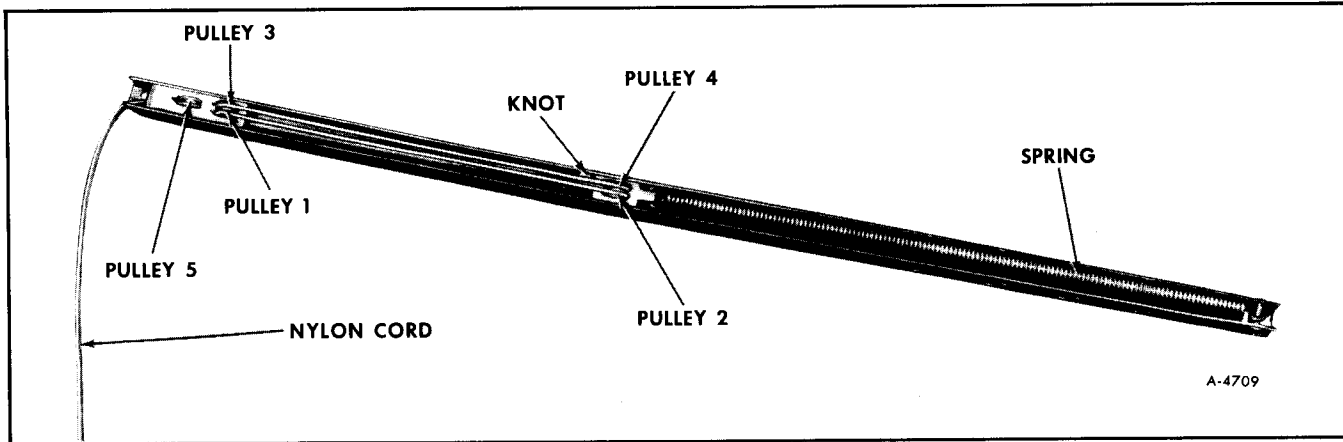

Figure 20—Operator Assembly
The operator assembly is secured to the window sash by the attaching screw shown in Figure 20. A nylon cord travels around the five operator assembly pulleys, behind the cord tension guides, and is then secured to a small hook on the window glass. Should nylon cord require replacement, procure locally.
1. String nylon cord from knotted hole around each consecutive pulley. Cord should travel under and over pulleys one and three, but over and under pulleys two and four, and under pulley five. Refer to Figure 20.